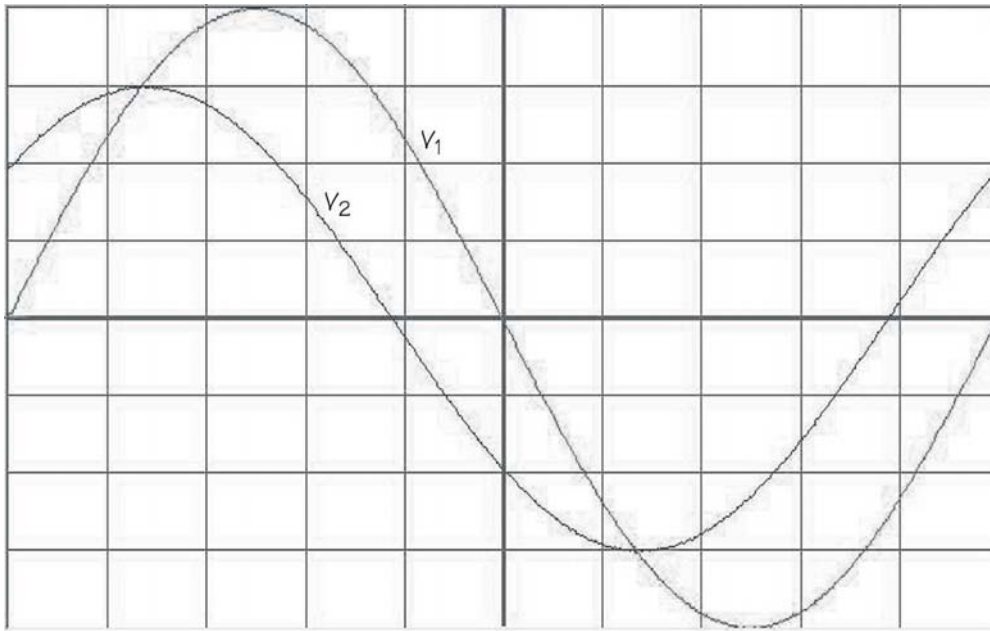

Fig. 2–Initial scope display
5. Start the scope and you should see two sine-wave traces (see Fig. 2)